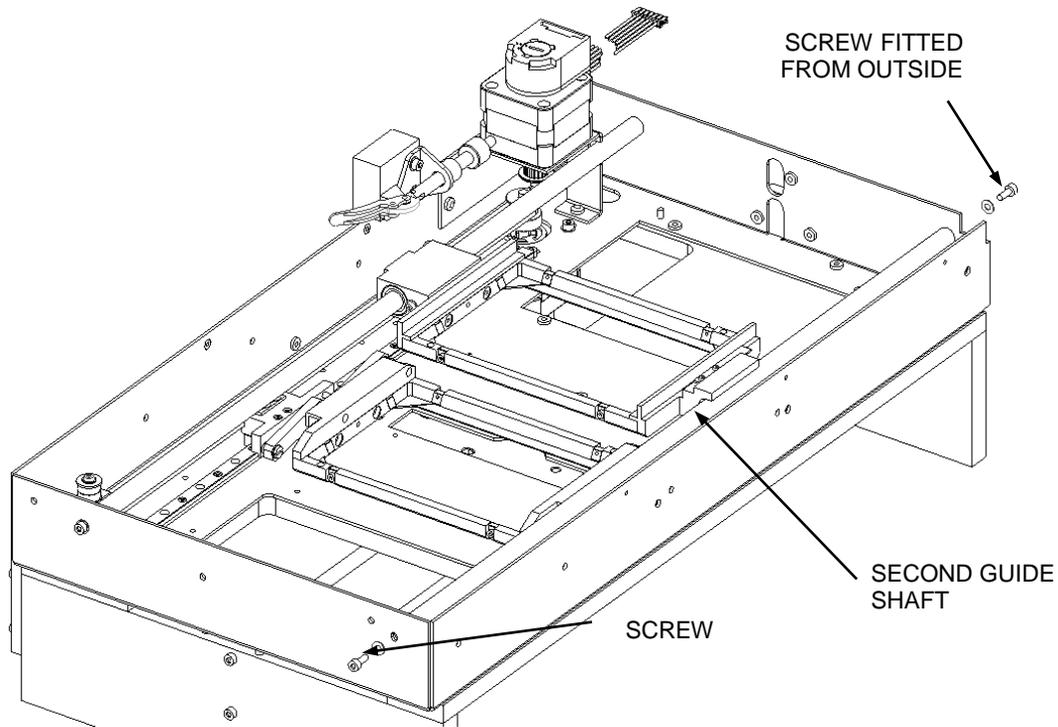

Figure 12-38: Right Guide Shaft
3. Fit a second Guide Shaft to the right side of the chassis (Figure 12-38) using two M3X8 Skt Cap Screws, two M3 Flat Washers and Loctite 222. Leave screws slightly loose for adjustment.